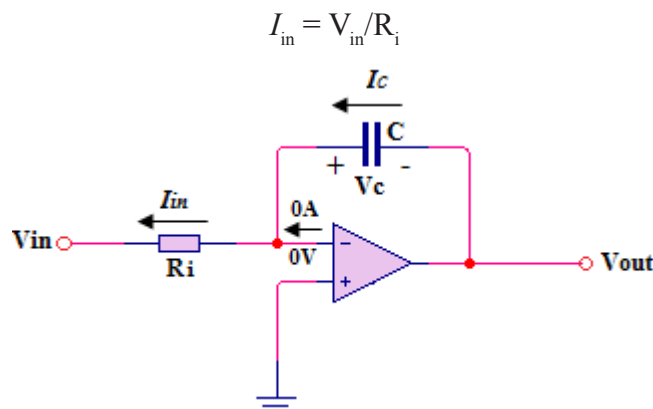

Figure 7-63: Currents in an integrator
In figure 7-63, the inverting input of the op-amp is virtual ground (0), so the voltage across R_i equals V_{in} . Therefore, the input current is
If V_{in} is a constant voltage, then I_{in} is also a constant because the inverting input always remain at 0V, keeping a constant voltage across R_i . Because of the very high input impedance of the op-amp, there is negligible current from the inverting input. All of the input currents is through the capacitor, as indicated in figure 7-63.